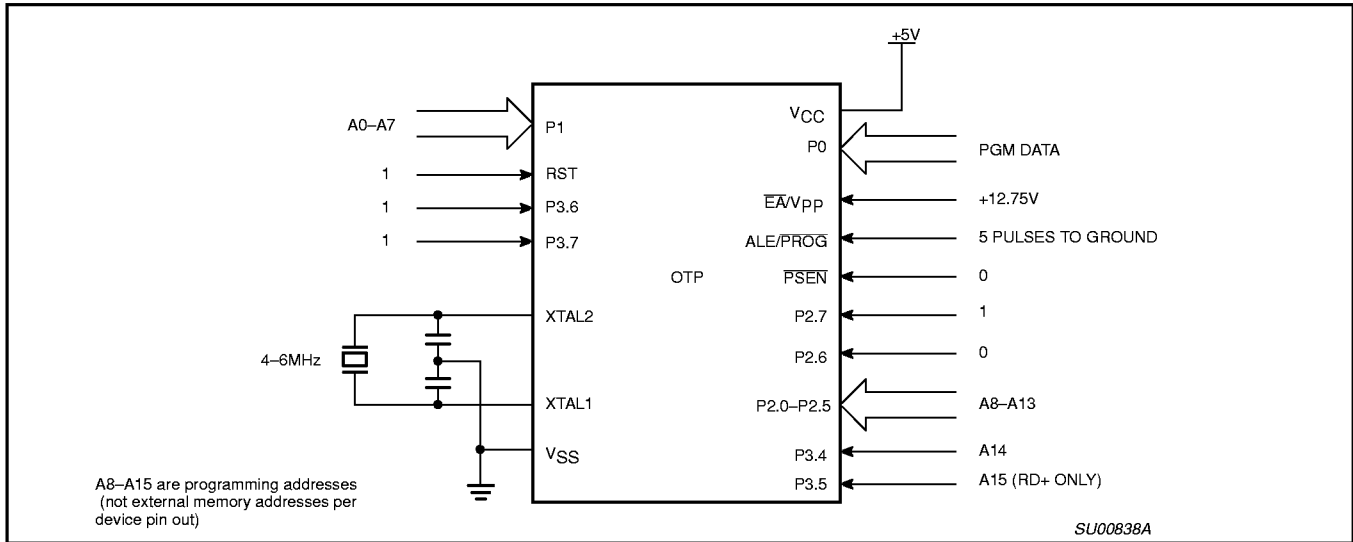
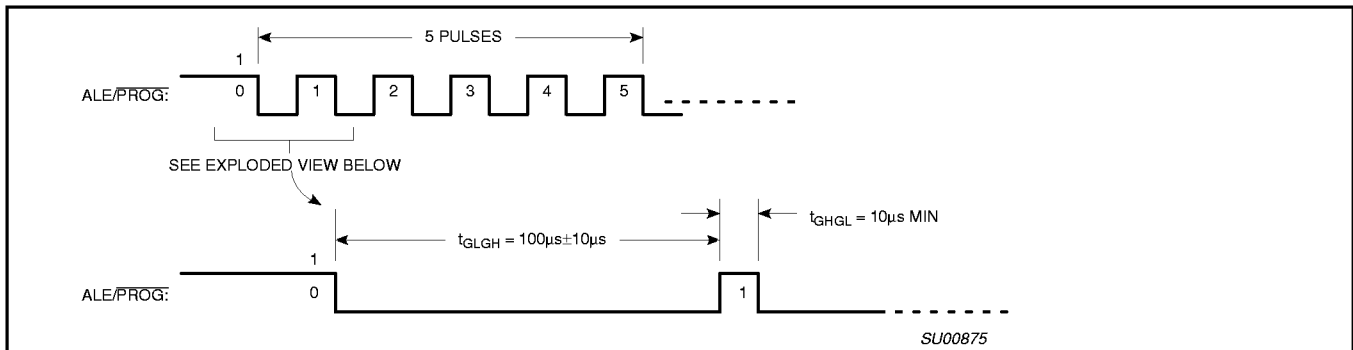
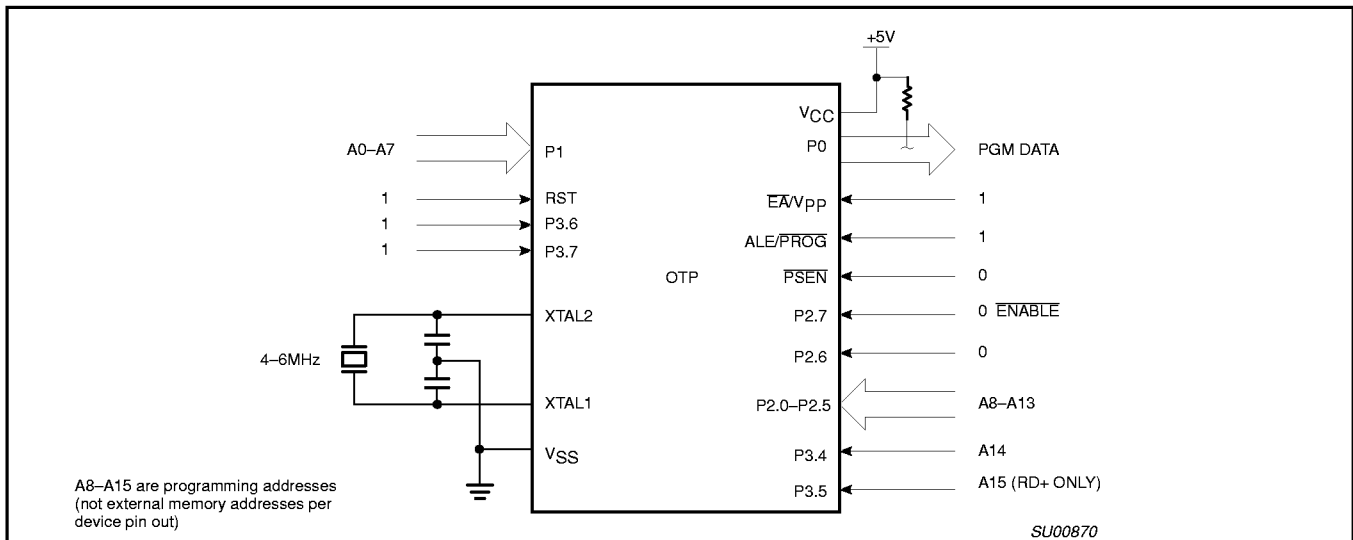

Figure 41. Programming Configuration
Figure 42. PROG Waveform
Figure 43. Program Verification
Table 9 shows the logic levels for reading the signature byte, and for programming the program memory, the encryption table, and the security bits. The circuit configuration and waveforms for quick-pulse programming are shown in Figures 41 and 42. Figure 43 shows the circuit configuration for normal program memory verification.
The setup for microcontroller quick-pulse programming is shown in Figure 41. Note that the device is running with a 4 to 6MHz oscillator. The reason the oscillator needs to be running is that the device is executing internal address and program data transfers.
The address of the EPROM location to be programmed is applied to ports 1 and 2, as shown in Figure 41. The code byte to be programmed into that location is applied to port 0. RST, PSEN and pins of ports 2 and 3 specified in Table 9 are held at the 'Program Code Data' levels indicated in Table 9. The ALE/PROG is pulsed low 5 times as shown in Figure 42.
address of the program memory locations to be read is applied to ports 1 and 2 as shown in Figure 43. The other pins are held at the 'Verify Code Data' levels indicated in Table 9. The contents of the address location will be emitted on port 0. External pull-ups are required on port 0 for this operation.
- * FOR PROGRAMMING CONFIGURATION SEE FIGURE 41.
FOR VERIFICATION CONDITIONS SEE FIGURE 43.